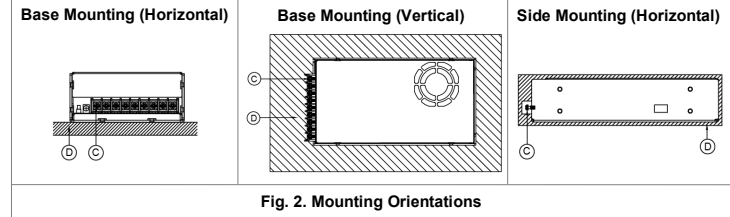
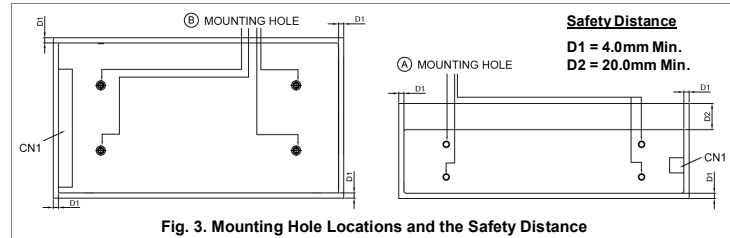
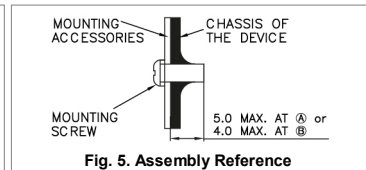

Fig. 2. Mounting Orientations
Fig. 3. Mounting Hole Locations and the Safety Distance
Fig. 5. Assembly Reference
- For safety reasons, please ensure the mounted device is kept at $\geq 4\text{mm}$ safety distance at all sides from other components and equipments. In addition, to ensure sufficient convection cooling, always maintain a distance of $\geq 20\text{mm}$ from fan ventilated surfaces while the device is in operation. Please insert an insulation sheet between the system and product, if the safety distance is $< 4\text{mm}$ (Refer to Fig. 3).
- ① Input & Output terminal block connector
- ② DC voltage adjustment potentiometer
- ③ DC OK control LED (Green)
- ④ AC selectable switch
- Side Mounting: Fig. 2 and Fig. 3 show the mounting hole locations for power supply assembly onto a metal mounting surface. The power supply shall be mounted on minimum of 4 mounting holes using M4 screw of maximum 5mm length (Refer to Fig. 5). This is to maintain a safety distance between the screw and internal components.
- Base Mounting: Fig. 2 and Fig. 3 show the mounting hole locations for power supply assembly onto a metal mounting surface. The power supply shall be mounted on minimum of 4 mounting holes using M4 screw of maximum 4mm length (Refer to Fig. 5). This is to maintain a safety distance between the screw and internal components.
- Fig. 2: Connector
- Fig. 2: This surface belongs to customer's end system or panel where the device is mounted.